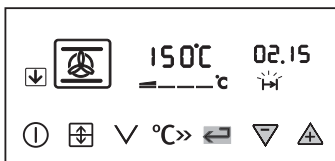

Fig.7.
- iv) To set the length of cooking time. Press the Time Selector button (↔) until the 'Cook Time' indicator neon (→) is illuminated. Press the increase control (Δ) until the required length of cooking time is displayed, e.g. 2 hrs 15 mins as Fig. 7. If necessary depress the decrease control (▽) until the correct time interval is achieved. The maximum cooking time is 9 hours 59 minutes.